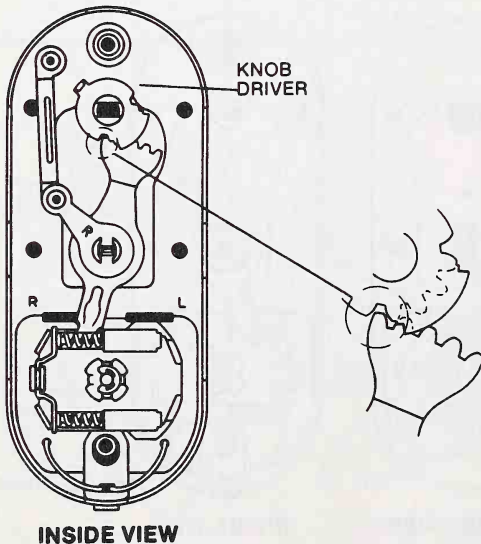

Fig. 18-86.
15. Install the knob driver (Fig. 18-86).